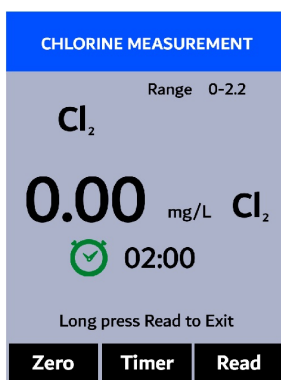

Figure 38.
3. Press **OK** to launch the **CHLORINE MEASUREMENT** screen (Figure 38).